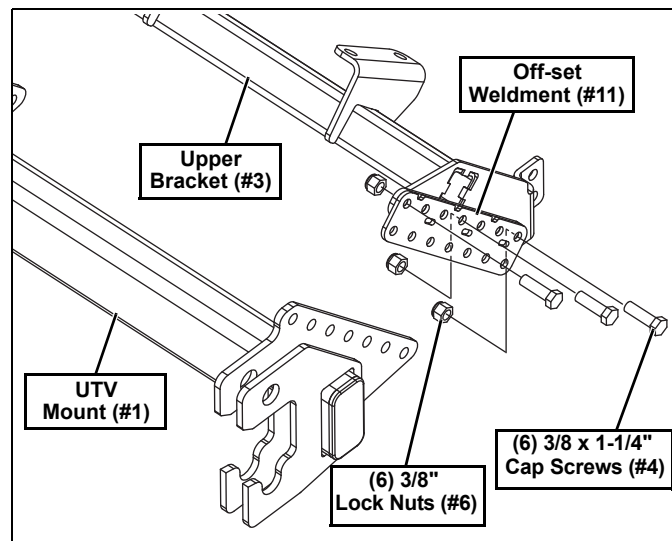

Figure 10
12. If your UTV doesn't require a 96118552 Mount Off-set Kit to fit around your brush guard, skip to the next step. Before attaching the UTV Mount (#1), secure the Off-set Weldments (#11) to each side of the Upper Bracket (#3) with (6) 3/8"-16 x 1-1/4" Cap Screws (#4) and (6) 3/8"-16 Lock Nuts (#6). (See Figure 10.)